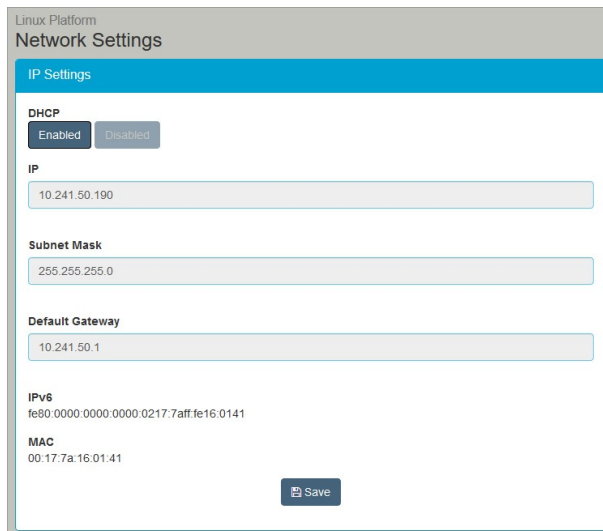

Figure 28
2. DHCP (*Dynamic Host Configuration Protocol*) is by default enabled; see Figure 28.